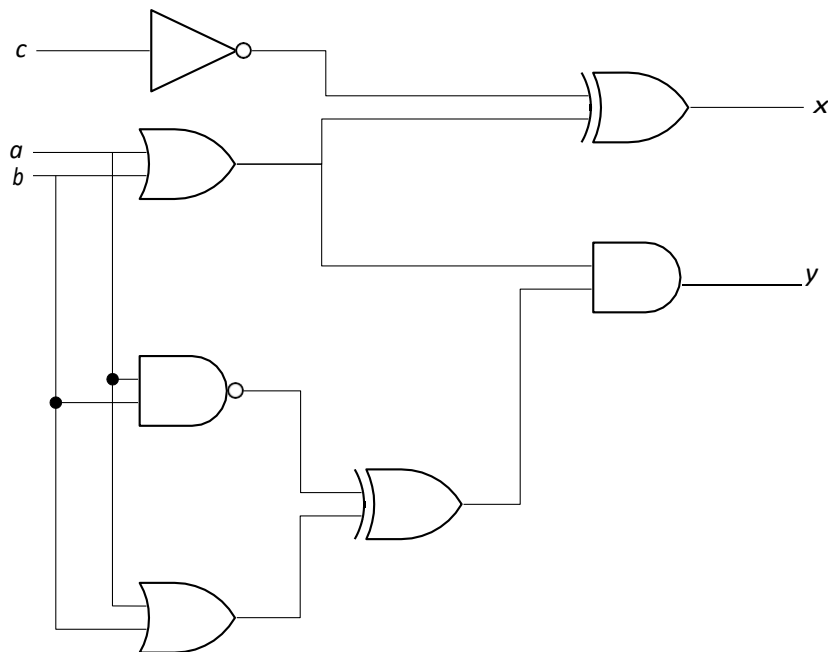

Fig. 2.17: Circuit to be implemented.
1. Implement the circuit shown in Fig. 2.17 on QuestaSim and verify it's truth table.
- (a) Truthtable of the circuit shown in Fig. 2.17.
2. System Verilog code of the given circuit in Fig. 2.17 using structural coding (using primitives such as AND, OR, etc., gates).
a) Truth table circuit in Fig. 2.17.